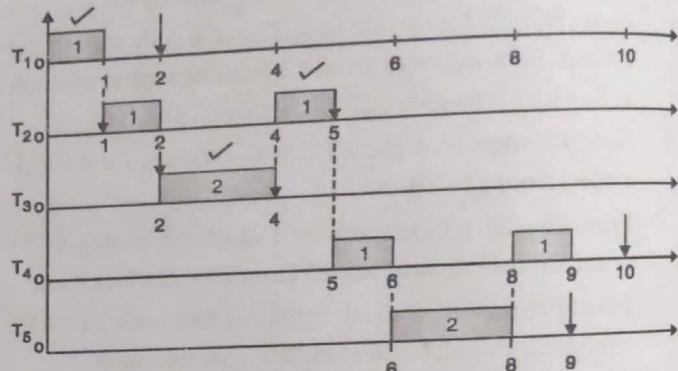

Fig. P. 1.2.4
- As shown in Fig. P. 1.2.4 we have time instance on Y-axis and tasks shown on X-axis.